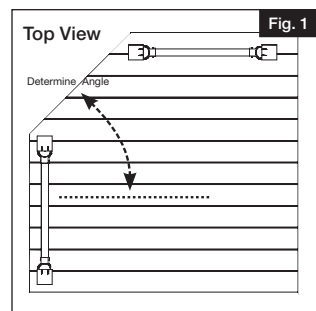

Fig. 1
- a. Assemble your rail section by inserting balusters/spindles into rails (Fig 1).
After posts have been installed, determine angle of railing (Fig 1).